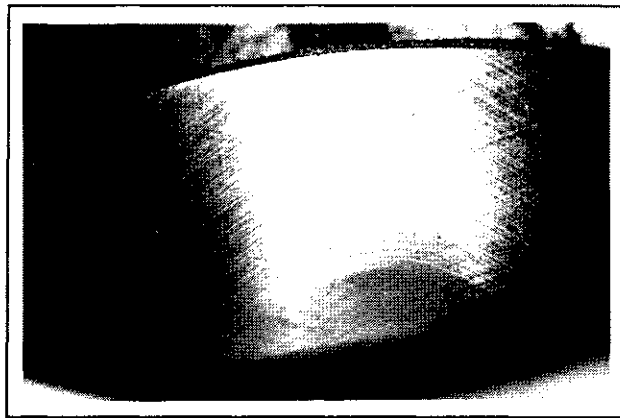

Figure 10-2. Cylinder Bore Crosshatch After Honing.
3. When bore is within .0025" of desired size, remove coarse stones and replace with burnishing stones. Continue with burnishing stones until within .0005" of desired size and then use finish stones (220–280 grit) and polish to final size. A crosshatch should be observed if honing is done correctly. The crosshatch should intersect at approximately 23–33° off the horizontal. Too flat of an angle could cause the rings to skip and wear excessively, too steep of an angle will result in high oil consumption (refer to Figure 10-2).